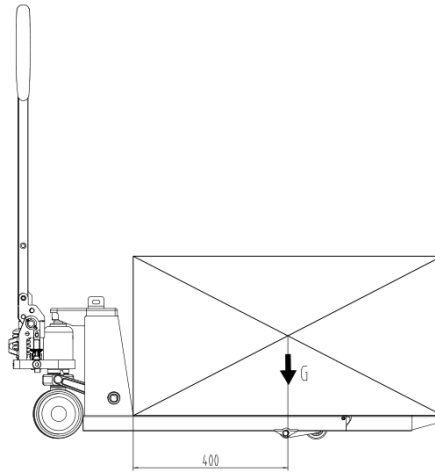

Figure. 7
5.3 The load center distance is 400mm, as shown in Figure 7; when using, it is prohibited to load the goods whose load center is beyond the truck's load center distance.